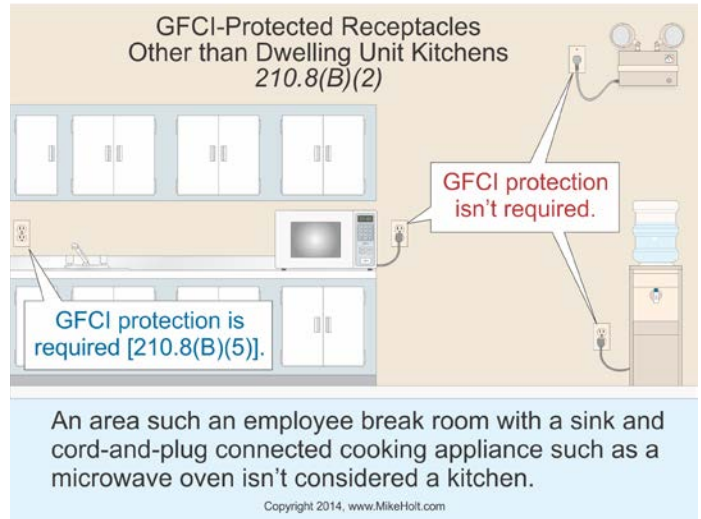

Figure 210-37
- An area such as an employee break room with a sink and cord-and-plug-connected cooking appliance such as a microwave oven isn't considered a kitchen. *Figure 210-37*